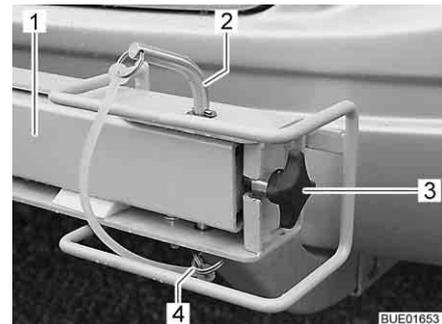

Fig. 2 Bike rack lock
- Pull out the cotter pin (Fig. 2,4).
- Pull the safety bolt (Fig. 2,2) out at the top.
- Loosen the hand knob (Fig. 2,3), unscrew if necessary.
- Swing the swivel arm (Fig. 2,1) to the side, keeping hold of it as you do so.